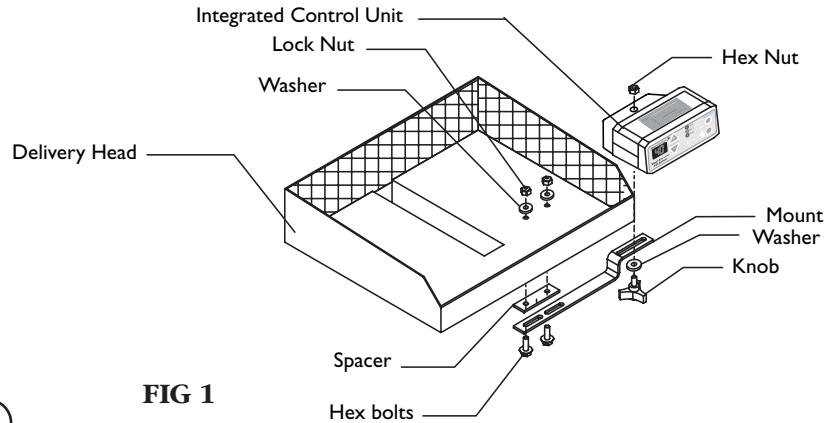

FIG 1
9. Secure mount using two washers and lock nuts, see FIG 1.